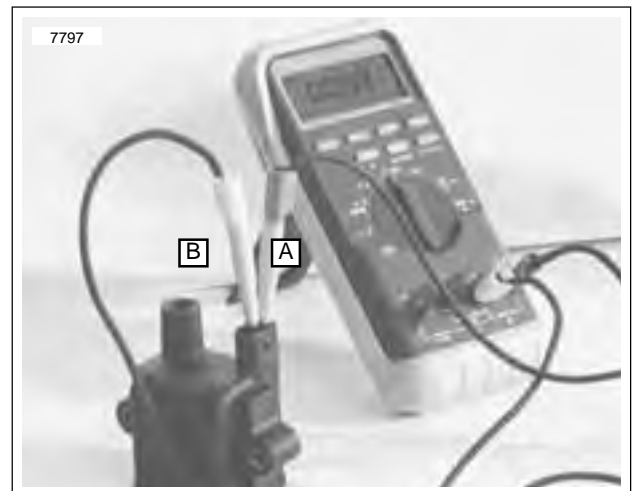

Figure 7-25. Ignition Coil Primary Resistance Test
3. See Figure 7-25. Using harness connector adaptor kit (HD-41404) gray female probes and patch cord, place multimeter wires on primary coil windings. See Page 7-7.